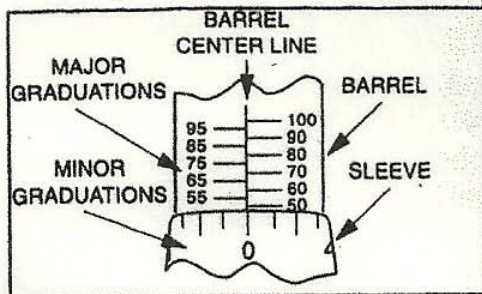

Fig. 2 - Torque setting 50.
3. While holding lock ring in the unlocked position, set torque wrench to desired torque value by rotating handle or barrel as shown in Figures 2 and 3 below.